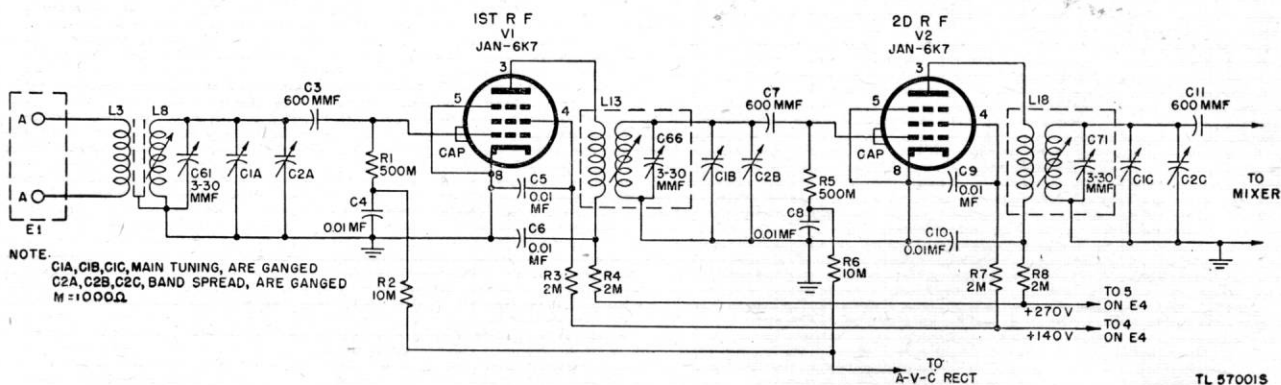
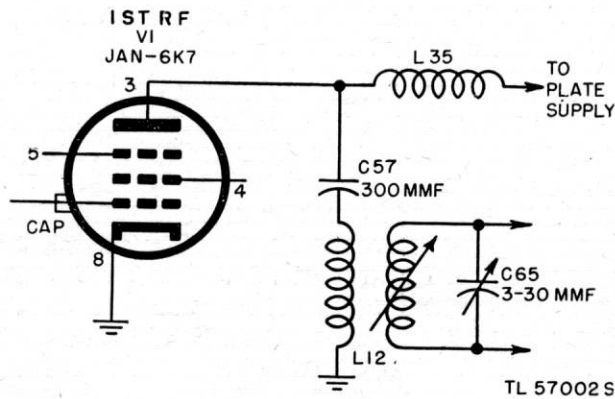

Figure 25. Radio Receiver BC-779-B, functional diagram of r-f amplifier.
Figure 26. Radio Receiver BC-794-B, functional diagram of 1st r-f stage.
59. R-F Amplifier (fig. 25)
For simplicity, only the circuits for the 2.5- to 5.0-mc band are shown and the band switching arrangement is omitted from figure 25. The band switching circuits are discussed in paragraph 68.
c. DIFFERENCES IN R-F CIRCUITS. (1) *Plate supply.* In Radio Receivers BC-779-(*), BC-1004-(*), and R-129/U, plate voltage is series-fed through resistance-capacitance (R-C) decoupling circuits and the r-f transformer primaries (fig. 25). In Radio Receiver BC-794-(*), plate voltage is shunt-fed by means of choke L35 and 300-mmf capacitor C57 in the first stage, and choke L36 and 300-mmf capacitor C58 in the second stage (figs. 26 and 57). This method was chosen to keep plate voltage off the tuned impedance interstage coupling circuits L49, C99, and L50, C100, of the 20-40-mc band. Decoupling filters R4, C6, and R8, C10, are not included.